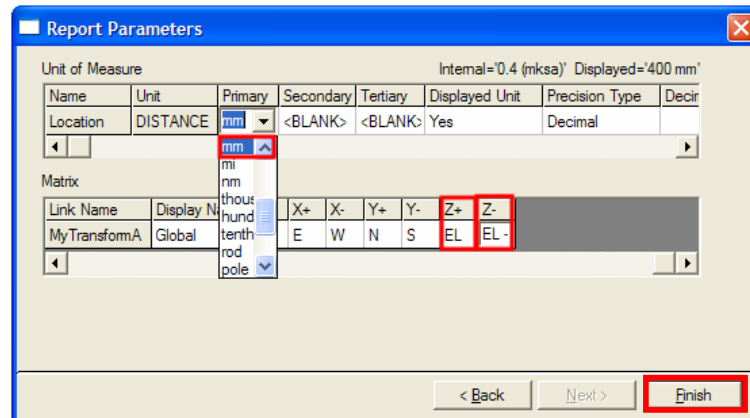

Figure 13: Report Parameters Dialog Box
- The **Report Parameters** dialog box displays the **Unit of Measure** and **Matrix** properties for the report. For the **Units of Measure** setting, select in the **Primary** column, indicating primary units, and change the value to **mm**, as shown Figure 13. Likewise, for the **Matrix** setting, change column **Z+** and **Z-** to contain the values **EL** and **EL -**, and then click **Finish** as shown in Figure 16.